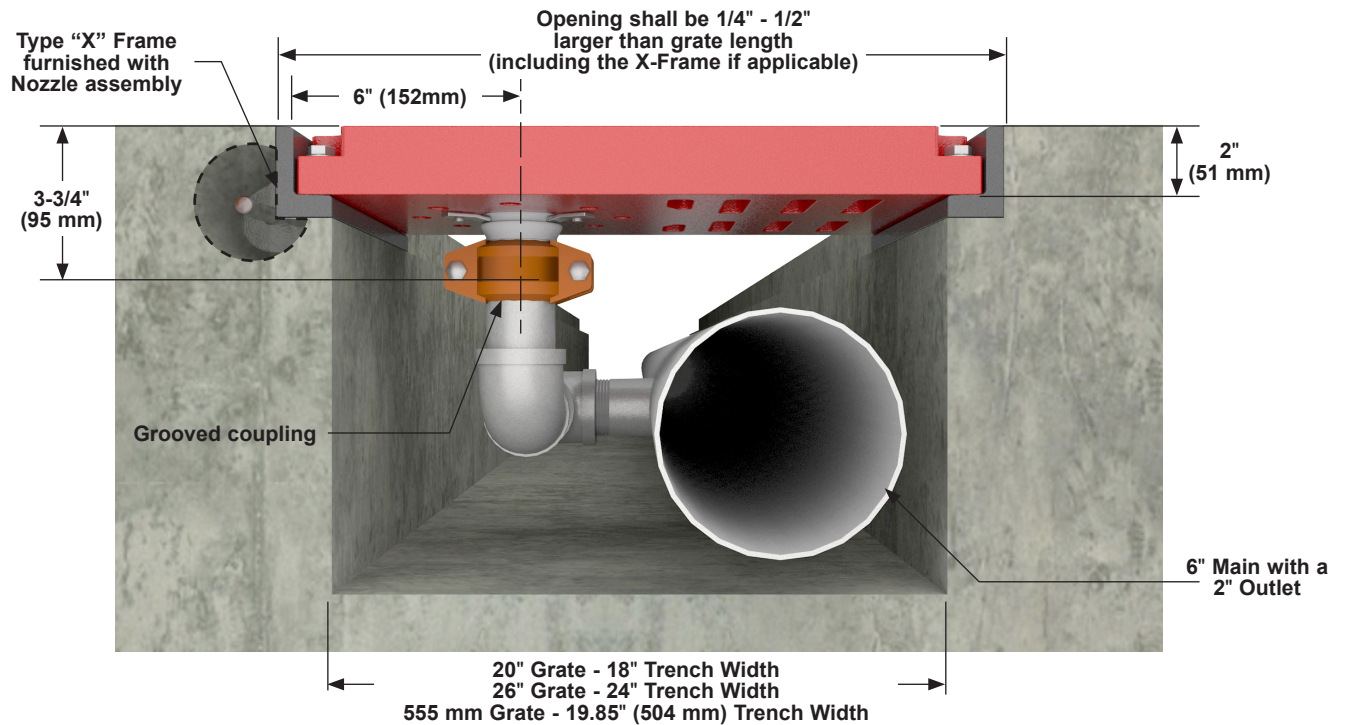

Figure 7.1.1: Trench Installation Cross Section
- D. Installation of the Grate Nozzle assembly and standard drain trench grates require that adequate drain trench sizing has been accounted for. (see Figure 7.1.1) Trench drain size should be defined by the architect or project engineer at an early stage and prior to installation.
- F. Supply piping must be located in the trench. A 2" supply pipe should be piped horizontally from the supply main located in the trench, and then vertically to the Grate Nozzle. The 2" supply must terminate in a grooved connection to allow for installation to the Grate Nozzle. (see Figure 7.1.1)